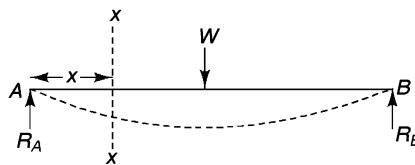

FIGURE 10.8 A simply supported beam with a point load.
(a) A simply supported beam with point load (W) at the centre. Refer to Figure 10.8.